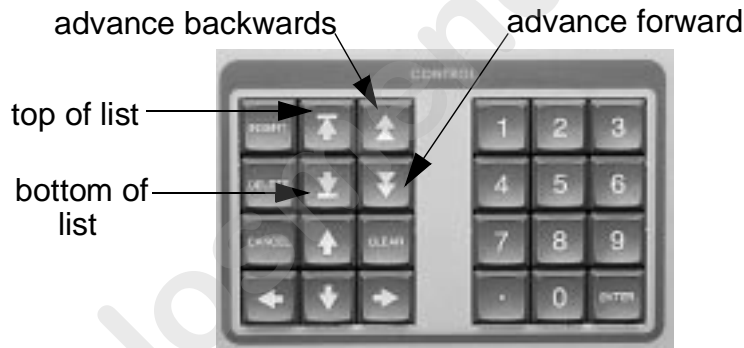

Figure 7.28. CONTROL Group
2. Press the page down (double arrows pointing down) key in the CONTROL group to advance forward through the Song list and press the page up (double arrows pointing up) to advance backwards through the Song list. Alternately, use the <Page Down> and <Page Up> keys on the keyboard. Press the up arrow to move to the first Song on the list and press the down arrow to move to the last song on the list. Refer to Figure 7.28.